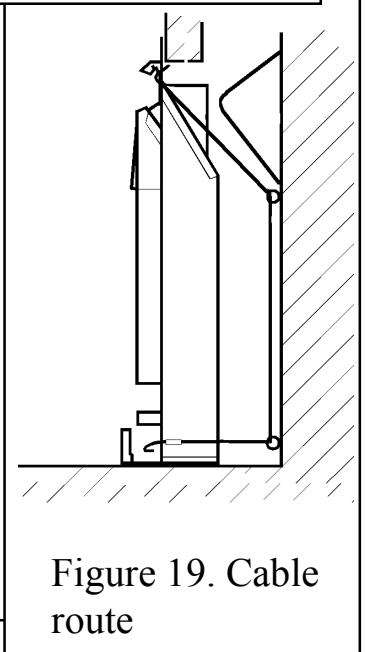

Figure 19. Cable route
5. Thread the cables through the upper eyebolts in the rear wall and then through the lower eyebolts. Return the cables through the holes near the bottom of the convection box back panel and through the "V" shaped brackets near the bottom front sides of the convection box. See figure 19.